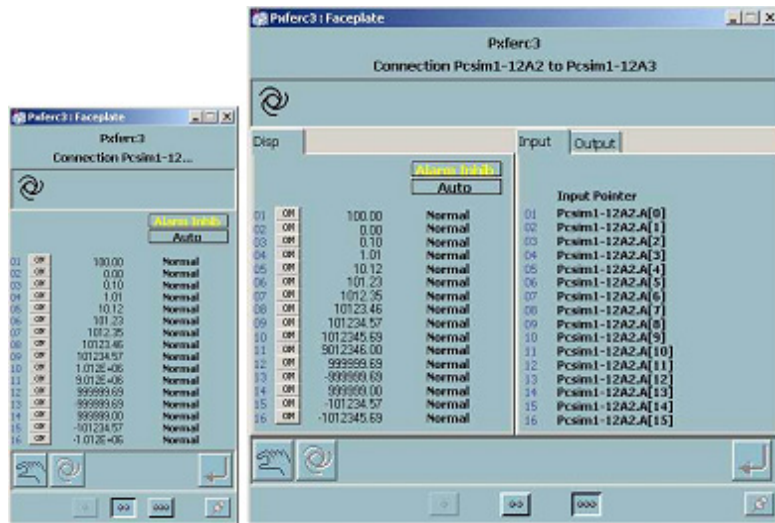

Figure 213. XFER Module
**Transfer (XFER).** The Transfer module faceplate represents a data transfer function block within an 800xA for DCI controller. The XFER module reports up to 16 input values and tag names associated to each value, the status of each transfer, the enabling state of each transfer, the output tag name associated to each transfer, and alarm status used for display in the faceplate. Figure 213 shows the layout of the XFER normal and extended sized faceplate and its attributes.